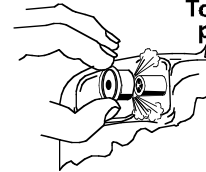

Fig. 3
1. Release air pressure by pulling knob of pressure relief valve. Pull out fully and allow all air to escape. (See figure 3)